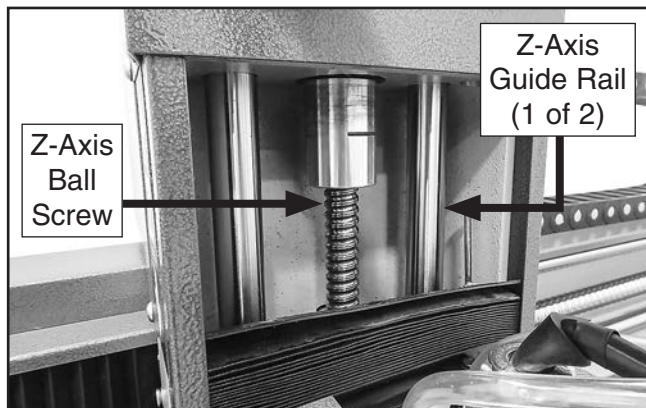

Figure 43. Example of Z-axis ball screw and guide rail components.
4. Pull down spindle dust cover and clean Z-axis ball screw with brush and mineral spirits to remove contamination (see **Figure 43**).
5. Clean Z-axis guide rails with clean rag dipped in mineral spirits to remove grime and old lubrication (see **Figure 43**).